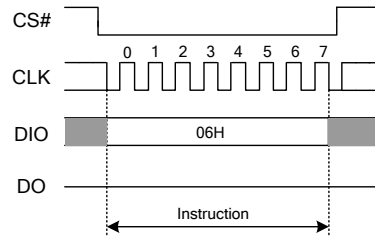

Figure 7.1 Write Enable Instruction Sequence Diagram
Instructions vary in length from a single byte to several bytes and may be followed by address bytes, data bytes, dummy bytes (don't care), and in some cases, a combination. Instructions are completed with the rising edge of edge CS#. Clock relative timing diagrams for each instruction are included in figures 7.1 through 7.5. All read instructions can be completed after any clocked bit. However, all instructions that Write, Program or Erase must complete on a byte boundary (CS driven high after a full 8-bits have been clocked) otherwise the instruction will be terminated. This feature further protects the device from inadvertent writes. Additionally, while the memory is being programmed or erased, or when the Status Register is being written, all instructions except for Read Status Register will be ignored until the program or erase cycle has completed.
- (1) Please contact sales for more information
The Write Enable instruction (Figure 7.1) sets the Write Enable Latch (WEL) bit in the Status Register to a 1. The WEL bit must be set prior to every Page Program, Sector Erase, Block Erase, Chip Erase and Write Status Register instruction. The Write Enable instruction is entered by driving CS# low, shifting the instruction code "06h" into the Data Input (DI) pin on the rising edge of CLK, and then driving CS# high.